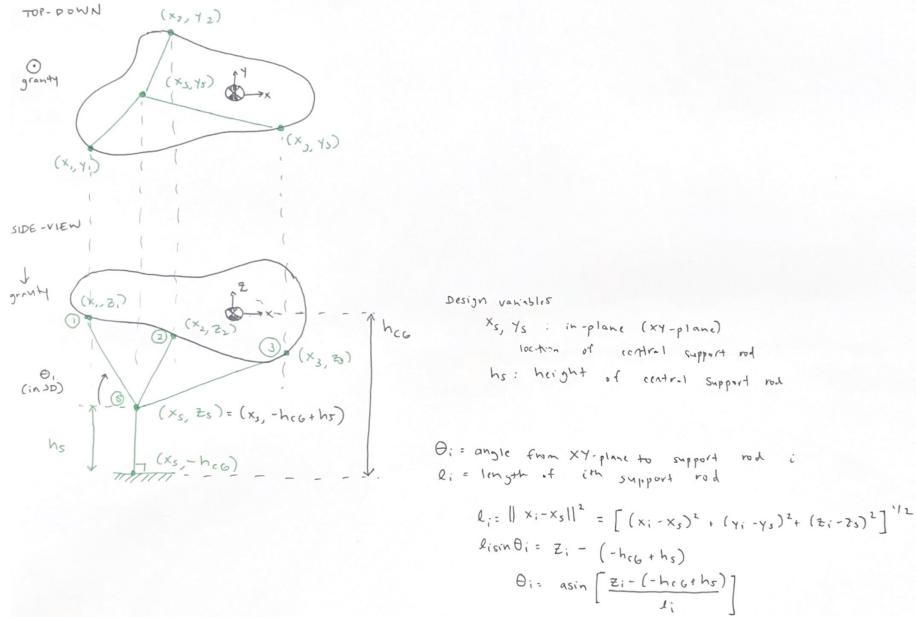

Figure 3: Labeled sketch of design space and definitions of design variables, support rod lengths, and rotation angles.
**Design variables:** I defined a three-variable design space (Fig. 3) that is fully-defined by the 3D location of the central support node (node that connects the three angled rods to the vertically-oriented support rod).